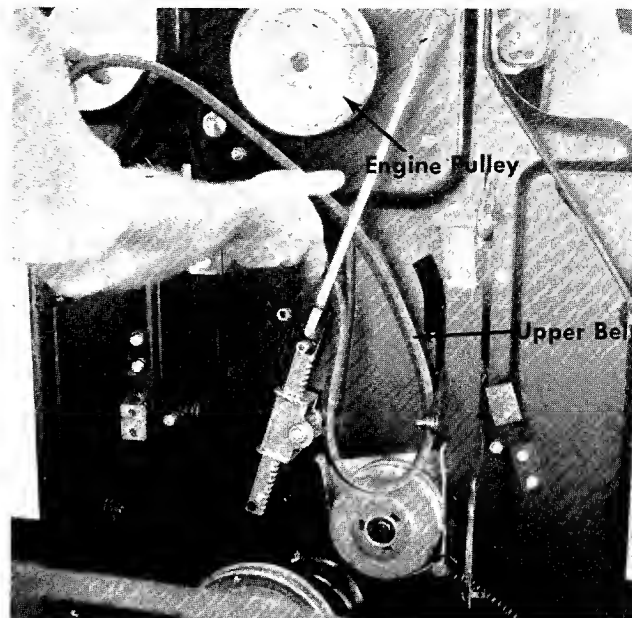

FIGURE 35. REMOVING THE UPPER BELT
- Step 12. Unhook the upper belt from the engine pulley and remove. See figure 35.